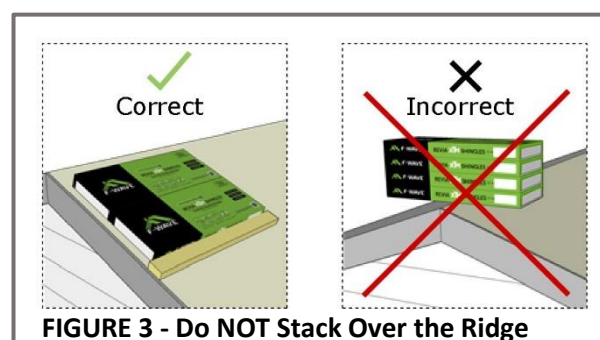

FIGURE 3 - Do NOT Stack Over the Ridge
- Distribute shingle bundles evenly across the roof, supported securely by properly installed toe boards or roof jacks. **Do NOT stack loose individual bundles more than three high.** See **Figure 3**.